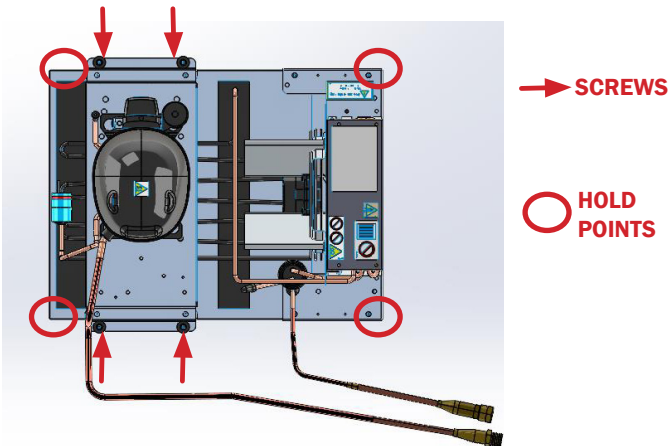
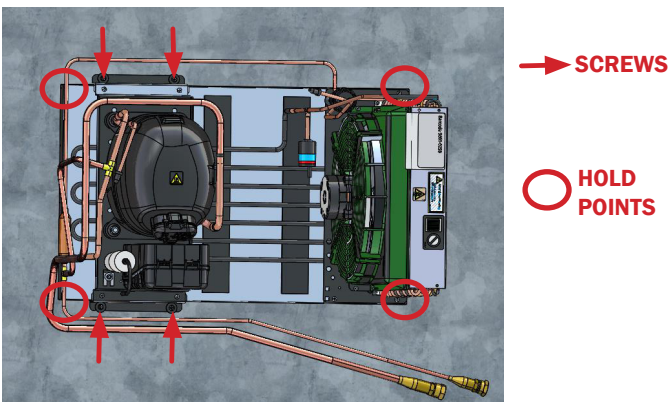

Fig. 17a 2, 3, 4, and 5-door MT CDU and 2-door LT CDU screws and hold points
Fig. 17b 3-door LT CDU screws and hold points
6. With connections out of the area, screws can now be removed. For 2 and 3-door cases, remove screws attaching CDU to top of the case (Fig. 17a) with 1/4" hex head. For 4 and 5-door cases, remove screws attaching CDU to top of the case (Figs. 17b-c) with 1/2" hex head.